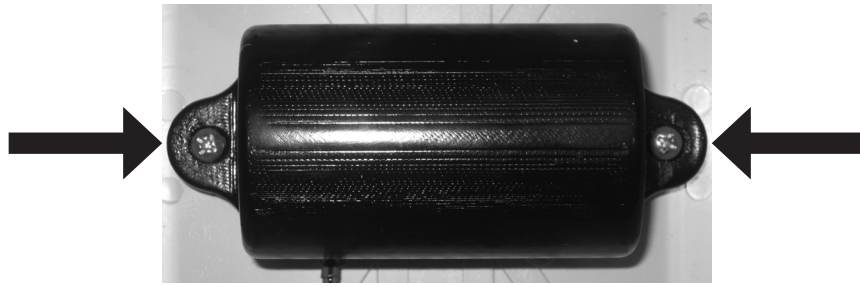

Figure 7 Removing/Replacing the Battery Assembly
- e. Remove and retain the two screws holding the battery assembly to the rear cover and remove the battery assembly from the Alarm (see Figure 7).